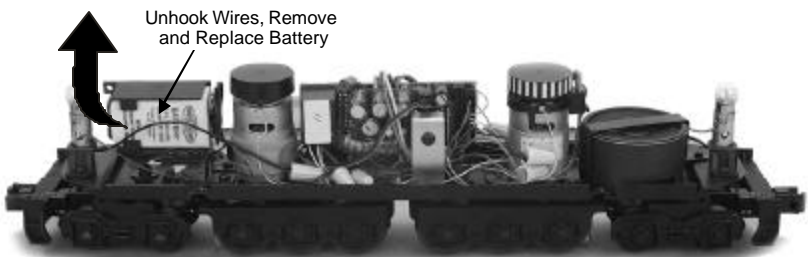

Figure 6. Unhook the Battery Leads, Remove the Battery and Replace with a New One.
- If the garbled or distorted sounds are reduced, the battery charge has run down and can be recharged. Do this by leaving the engine in neutral with track voltage at 12 volts for 6-7 hours so the battery can fully recharge (if your engine has a smoke unit, be sure it is turned off). Or you can remove the battery (*see Fig. 6 below*) and charge it in any standard slow charge battery recharger, following the recharger's directions.
- If the sounds are not improved at the end of the 15 minute test charge, it is time to replace the battery (*see Fig. 6 below*). Contact the M.T.H. Parts Department (phone: 410-381-2580; e-mail: [parts@mth-railking.com](mailto:parts@mth-railking.com); mail: 7020 Columbia Gateway Drive, Columbia MD 21046-1532) for a replacement battery. A standard 9v alkaline battery can be substituted until your replacement arrives, but since alkaline batteries cannot be recharged, it will eventually wear down. Do NOT use a 6-cell 7.2v battery like those found in most convenience stores.